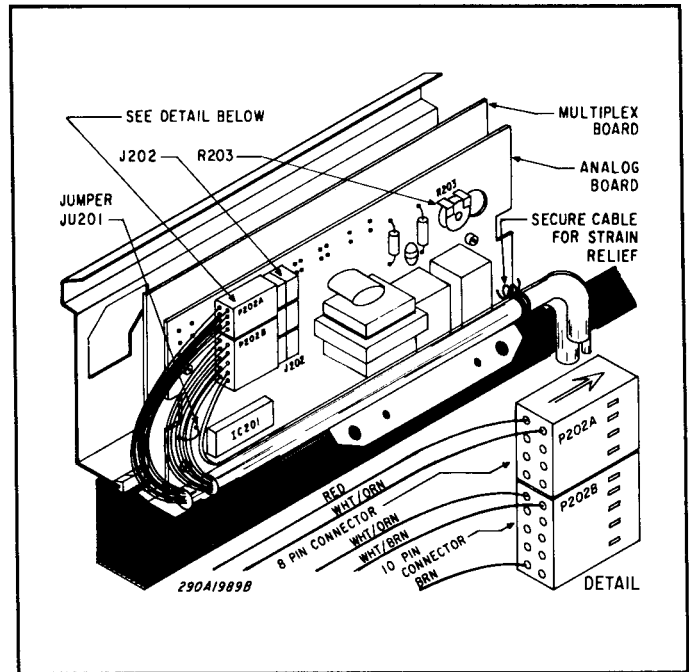

Figure 3. Control Head PC Boards and Cable Routing.
The light bar 8-conductor data cable and the control center accessory cable must be properly terminated inside the control center (see Figure 3). All accessories must be correctly connected to the accessory cable for proper operation. Using Figure 12 as a guide, perform the following electrical connections.
2. Connect the light bar 8-conductor data cable to the top 8 pins of connector J202 on the rear of the control head analog PC board. Orient the plug (P202A) so that the red wire is toward the top of the PC board and closest to the PC board (red wire up). See detail in figure 3.
3. Connect the control head accessory cable to the bottom 10 pins of connector J202 on the rear of the control head analog PC board. Orient the plug (P202B) so that the brown wire is toward IC201 and closest to the PC board (brown wire down). See detail in Figure 3.
4. Route the cables across the bottom of the PC board as shown in Figure 3. To provide strain relief, secure the cables to the control head bracket with the supplied tie-wrap. NOTE: Route the tie-wrap through the holes in the bracket and tie a knot on top of the cables.
8. See Figure 3. Using a very small screwdriver, adjust R203 on the circuit board for the desired listening level outside the vehicle.
9. Cut JU201 for common mic configuration (figure 3). Do not connect mic connector to vehicle chassis. Reassemble the control center.